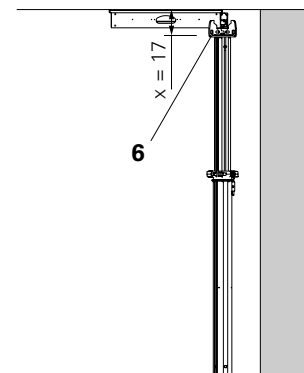

Fig. A2.07
1. Adjust the extension lengths of the props. Clear room height minus dimension  $x$  (Fig. A2.07). Take into consideration the different overall heights of the main beams: Main Beam SLT 225 = 24 cm / Main Beam SLT 150 = 19 cm.